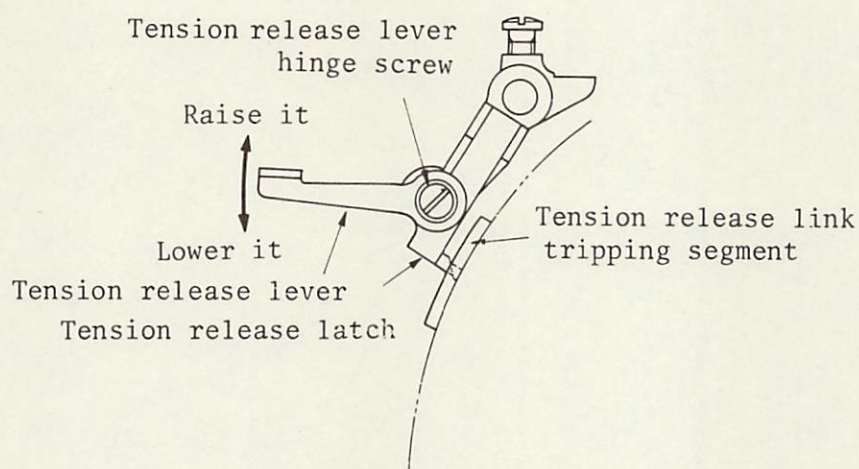

Fig.47
- \* The standard adjustment is for the thread tension release lever to be set so that when the last stitch needle thread loop has slipped out from the corner of the bobbin, the No.2 tension disc will be released. However, when the following phenomenon occurs, insert a screw driver from the hole on the upper left side of the cam cover, loosen the tension release hinge screw and adjust by raising the tension release lever up and down. (Fig.47)